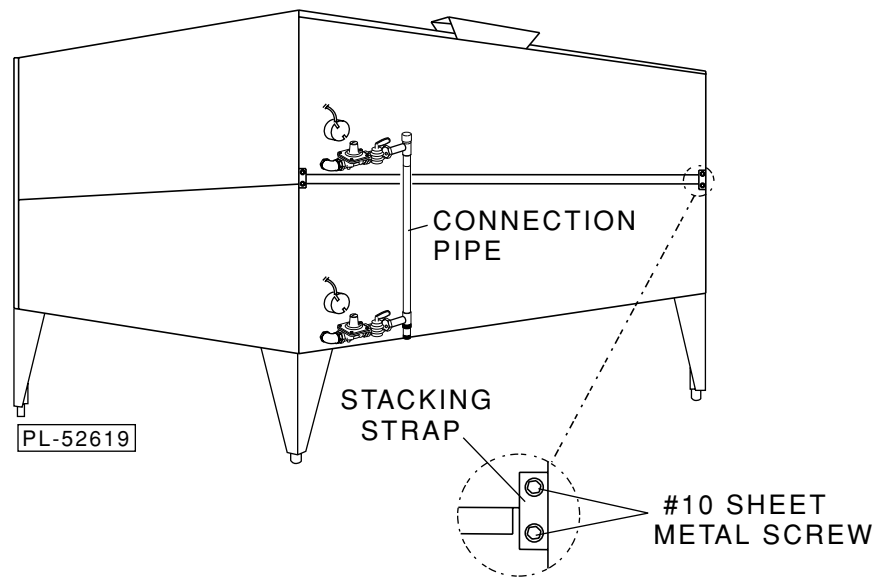

Fig. 3
3. Tie both ovens together at the rear with the stacking straps and the hardware provided (Fig. 3).
4. Install the connection pipe with unions (Fig. 3).